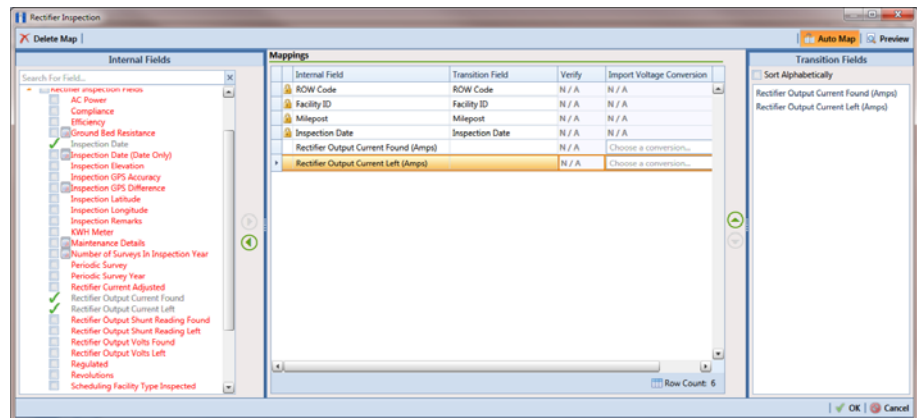

Figure 10-39. Field Mappings
- a** Click  **Edit** in the *Maps* group box to open a field mapping window (Figure 10-39).
NOTE: Fields in the *Mappings* panel with a lock icon  are required fields for mapping, such as *ROW Code*, *Milepost*, *Facility ID*, and *Inspection Date* shown in the following example (Figure 10-39, page 493).